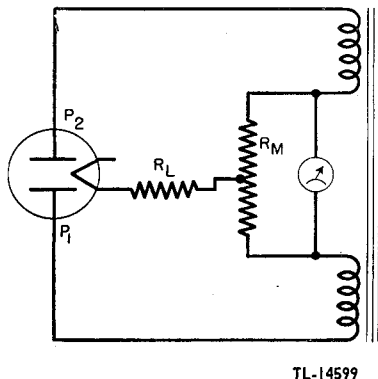

Figure 7. Tube Tester I-177, rectifier diagram illustrating theory.
a. Examine first the simple full-wave rectifier circuit shown in figure 7. The two power transformer secondary windings have their inner ends connected to a direct-current milliammeter. Across the milliammeter is a center-tapped resistor  $R_M$ . The load is shown as a resistance  $R_L$ , connected between the center tap and the rectifier filament as in any full-wave rectifier circuit. When rectifier plate  $P_2$  is positive, electron flow is through the upper half of  $R_M$ , and the meter tends to deflect in one direction. When  $P_1$  is positive, electron flow is through the lower half of  $R_M$ , and the meter tends to deflect in the other direction. With the load resistance fixed and equal forces acting on the meter in both cases, the meter stays at zero because it cannot follow variations at the power line frequency.